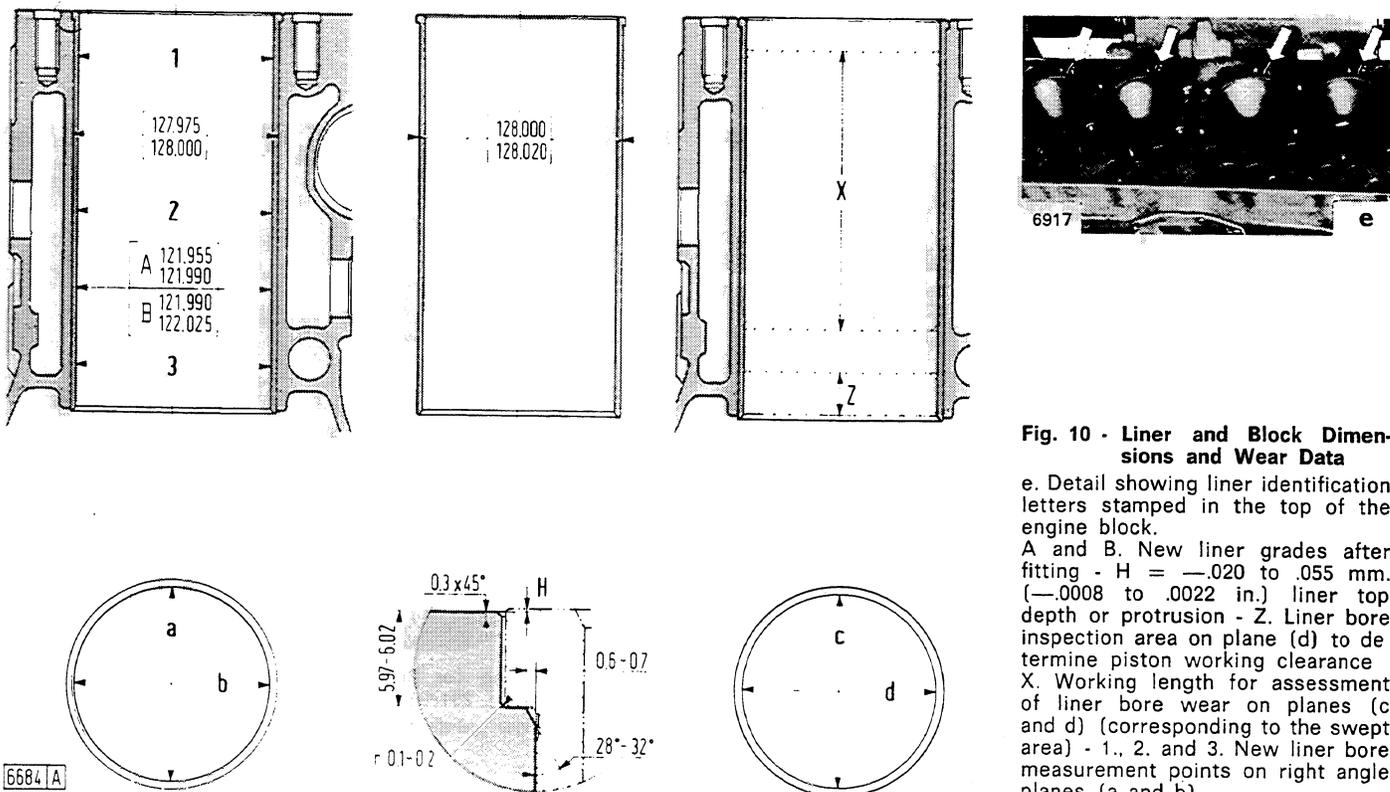
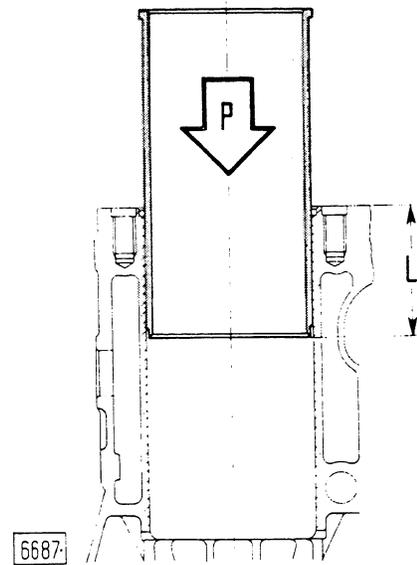

Fig. 10 - Liner and Block Dimensions and Wear Data
Fig. 11 - Pressing the Liners in the Engine Block
The finish machined cylinder liners are heat-treated before press-fitting into the block. Their selection according to grades A and B (see Fig. 10) takes place after press-fitting, without any need for further processing.
- Check the liner bore over the working length (X, Fig. 10) swept by the piston rings.
- When the liner is 80 to 100 mm. (3 to 4 in.) in (see L, Fig. 11), the load (P) required to drive the liners fully home is 350 to 3,500 Kg. (770 to 7,700 lb.).
- As a load lower than 350 Kg. (770 lb.) indicates insufficient interference, whilst one higher than 3,500 Kg. (7,700 lb.) means excessive interference, the replacement liners should be selected so that fitting load (P) is within the stated range.
- With the liner fully home, check the liner bore by placing a suitable dial gauge set to zero on planes (a and b, Fig. 10), subsequently repeating the readings in three points (1, 2 and 3) at different heights.
- Also check that top depth or liner protrusion (H) is — .020 to .055 mm. (— .0008 to .0022 in.).
After opening out the block it will be necessary to recut the lead-in chamfer according to the dimensions given in the appropriate detail of Fig. 10.
If the block top needs skimming (which should be done with the liners removed) it will also be necessary to restore the original depth of counterbore and lead-in chamfer according to the dimensions shown in the appropriate detail of Fig. 10, to obtain fitted liner dimension (H) as prescribed.